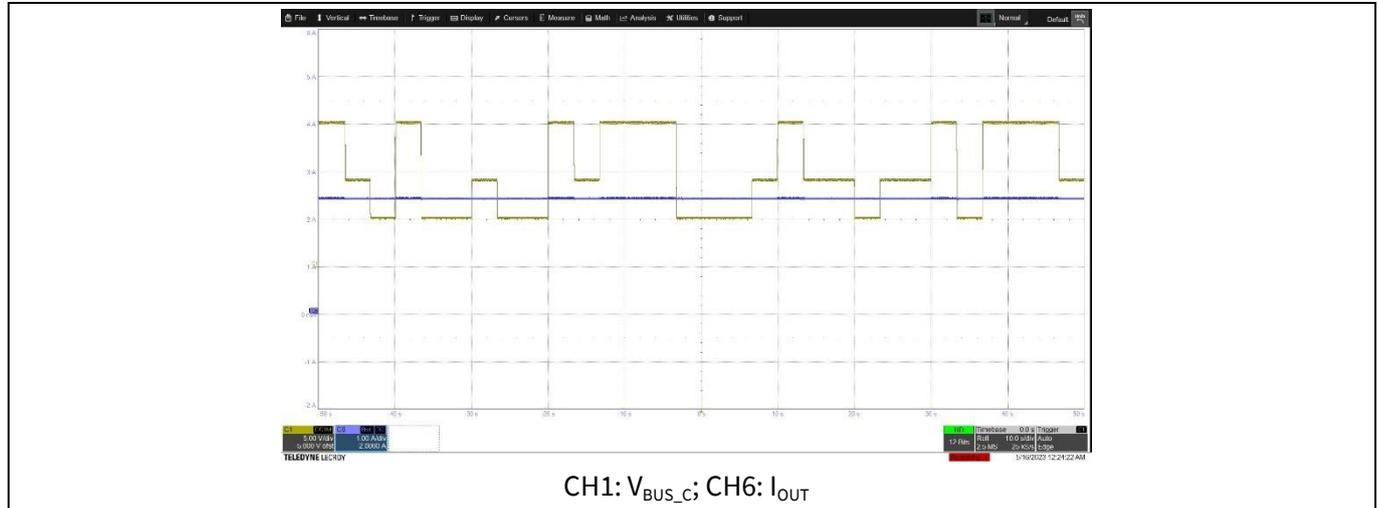

Figure 60 $V_{IN} = 230 V_{AC}$; V_{BUS_C} – continuously changing from 5 V to 9 V to 15 V (PDO); $I_{OUT} = 1 A$
- **Electrical stress test #2** $V_{IN} = 230 V_{AC}$; V_{BUS_C} – randomly changing from 5 V–9 V–15 V (PDO); $I_{OUT} = 1 A$ for a duration of 60 minutes. Captured waveforms are shown in Figure 60